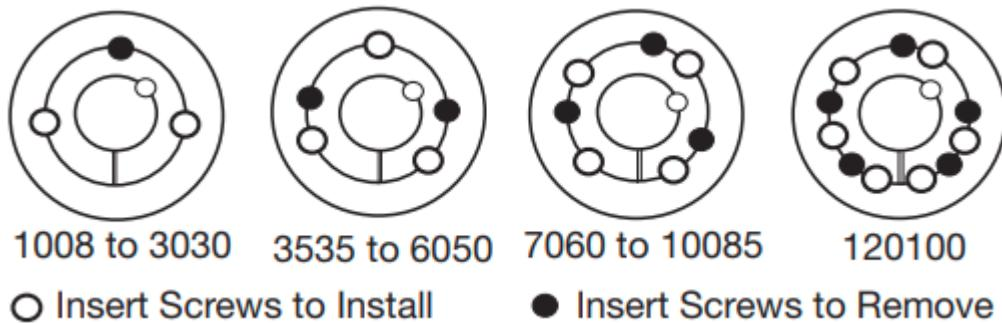

Figure 9: Screw locations
3. "LIGHTLY" oil setscrews and thread into those half-threaded holes indicated by in Figure 9. Do not lubricate the bushing taper, bushing bore, hub taper or the shaft. Doing so could result in breakage of the product.
2. Insert screws in holes indicated by ● in Figure 9. Loosen bushing by alternately tightening screws.